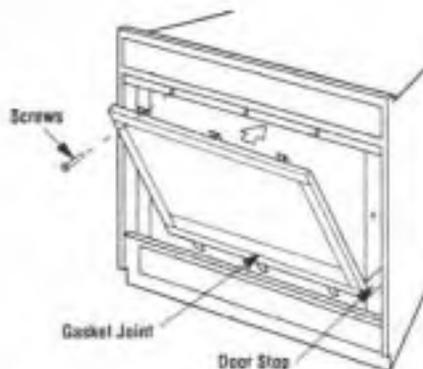

Figure 43
Position the door frame in front of the firebox opening, with the joint in the gasket down (Figure 43). Locate the three (3) tabs at the bottom edge of the door frame into the three (3) brackets at the base of the fireplace front opening. Lean the door frame back towards the fireplace ensuring that the gasket seats evenly as the door frame draws shut. Install the three (3)  $\frac{1}{4}$ "-20 x 1" Phillips pan head screws removed previously and tighten to secure. Ensure that the tab on the bottom of the door frame engages the door switch.